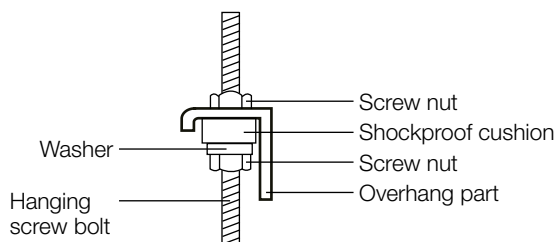

Fig. 4.10
7. Mount the indoor unit onto the hanging screw bolts with a block. Position the indoor unit flat using a level indicator to prevent leaks. (See Fig. 4.10)